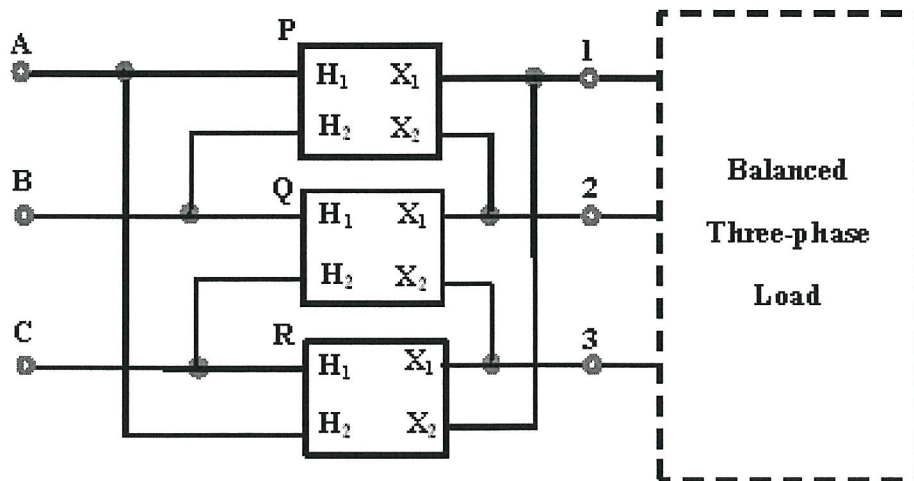

Figure Q5 (a)
- Q5** (a) The physical layout of three single-phase transformer is illustrated in **Figure Q5(a)**. Analyse the layout and sketch the corresponding three-phase schematic diagram for the primary and secondary sides of the transformer. (6 marks)